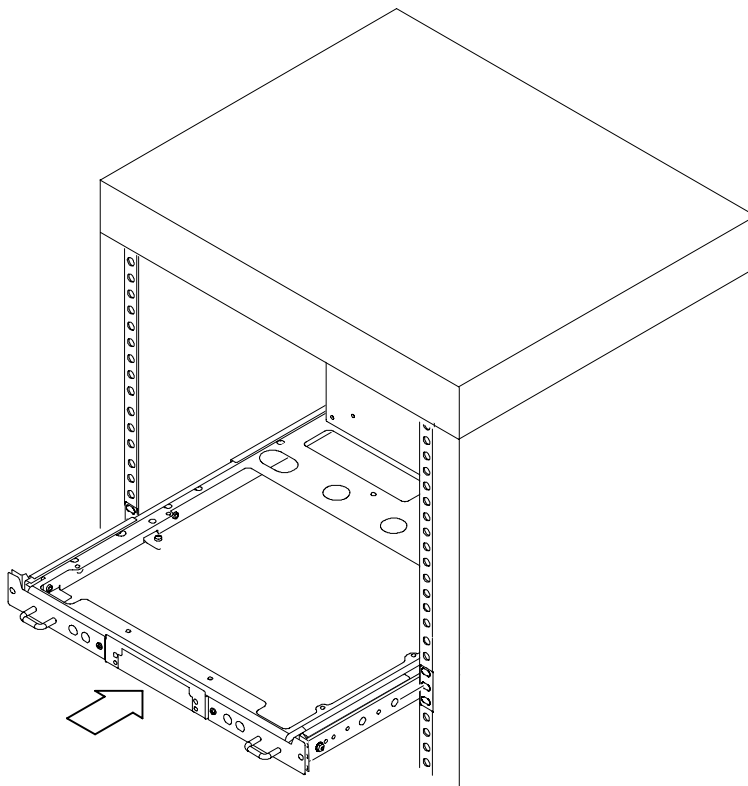

Figure 7: Installation of rack plate assembly in rack (top view) (configurations 1 and 2 shown)
3. Install the rack platform in your equipment rack by inserting the platform into the slides as shown in Figure 7.